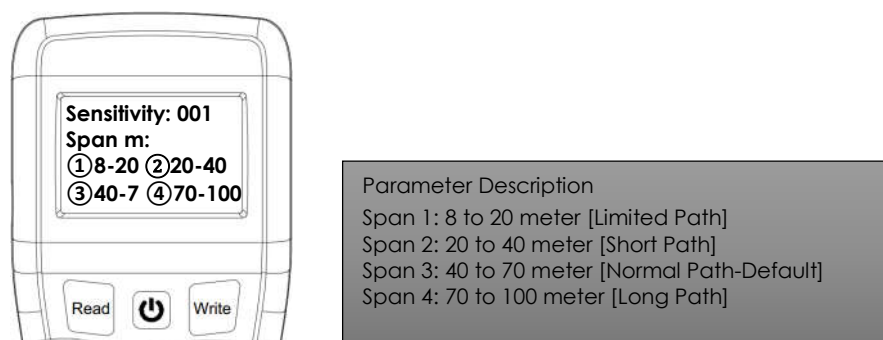

Figure 12
2. Switch on the programmer, then press button “3” then display “**Sensitivity and Span (m)**”. Then enter then press “**0/Page**” key to highlight the previous Span setting. Then press value from 1, 2, 3 or 4 correspond to the span value and then press “**Write**” key. (Figure 12)